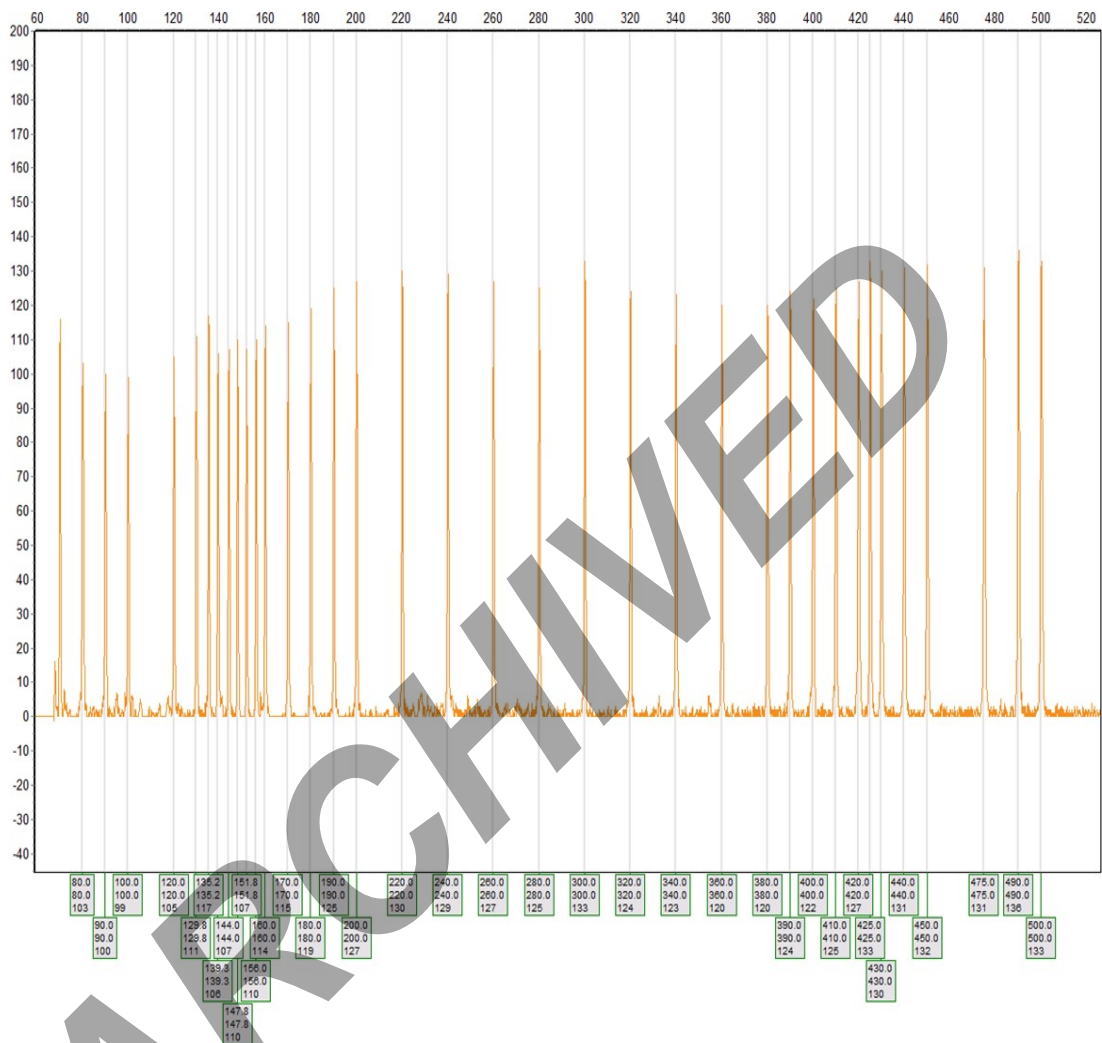

Figure 17. RapidHIT™ ID Internal Size Standard (ILS) in GeneMarker™ HID
2. Check ILS to ensure that all peaks correctly called (see Figure 17).